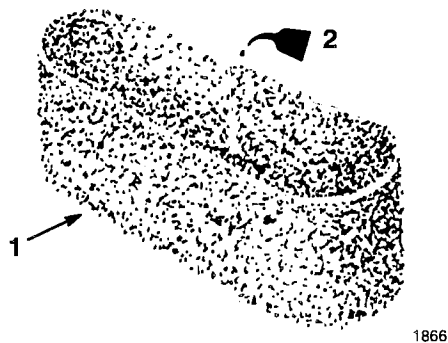

Figure 30
- C. Put one or two ounces of oil on the element (Fig. 30). Squeeze the element to distribute the oil.